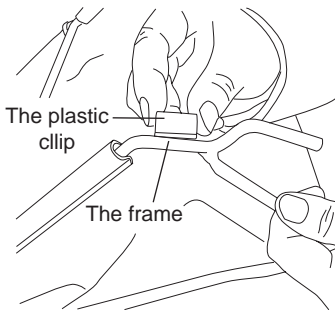

Fig. 14
1. Before assembly, first attach the 5 plastic clips onto the frame of the grass catcher (15) (Fig.14&15).